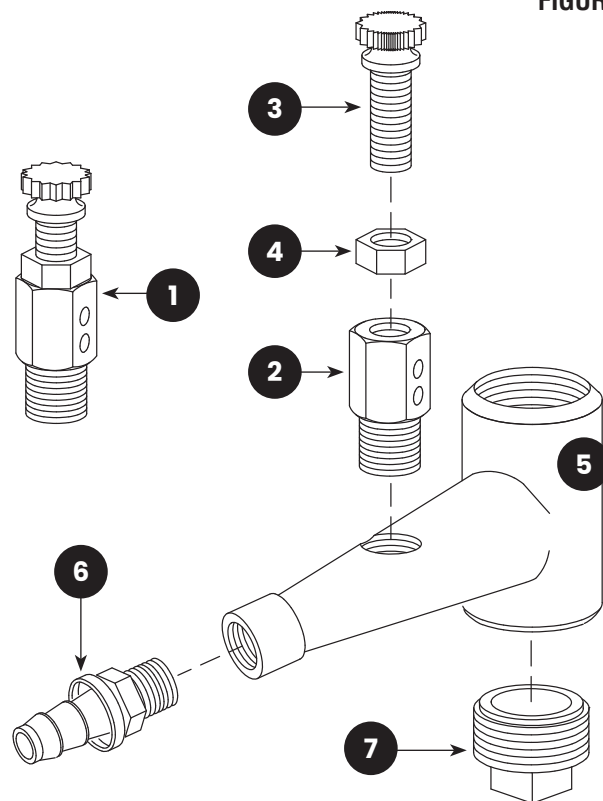

FIGURE 16
9.2 | Metering Valve – Figure 16